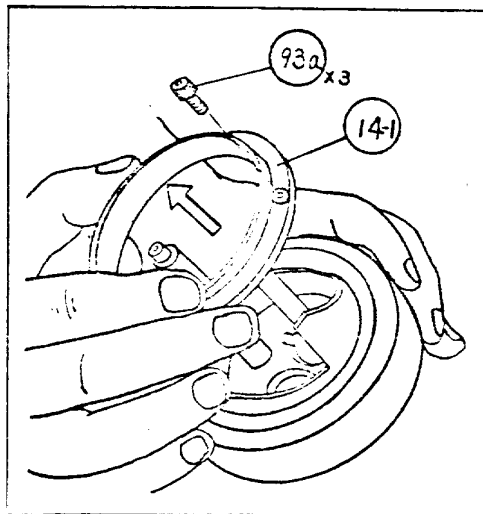

Fig. 47
- 9) Unscrewing the screws (93a)x3 remove the zooming ring retainer (14-1) (Fig. 47).